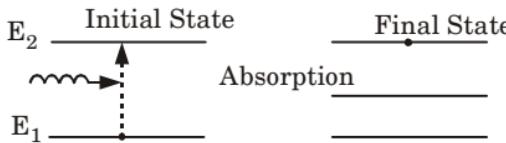

Fig. 3.10.1.
4. Fig. 3.10.1 illustrates a two energy state where an atom is initially in lower energy state E_1 .